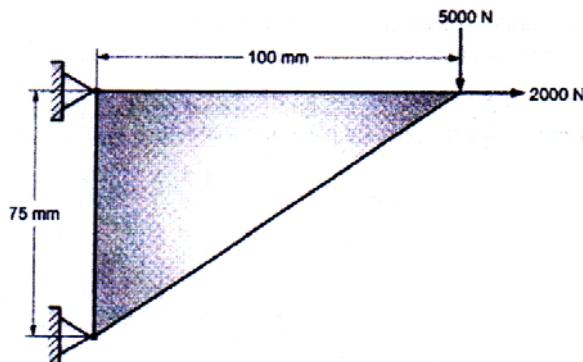

Fig.5
- Q5)** A triangular plate of size $100 \times 75 \times 12.5$ mm is subjected to the loads as shown in fig.5. The modulus of elasticity and Poisson's ratio for the plate material are 2×10^5 N/mm 2 and 0.3 respectively. Model the plate with CST element and determine : [17]